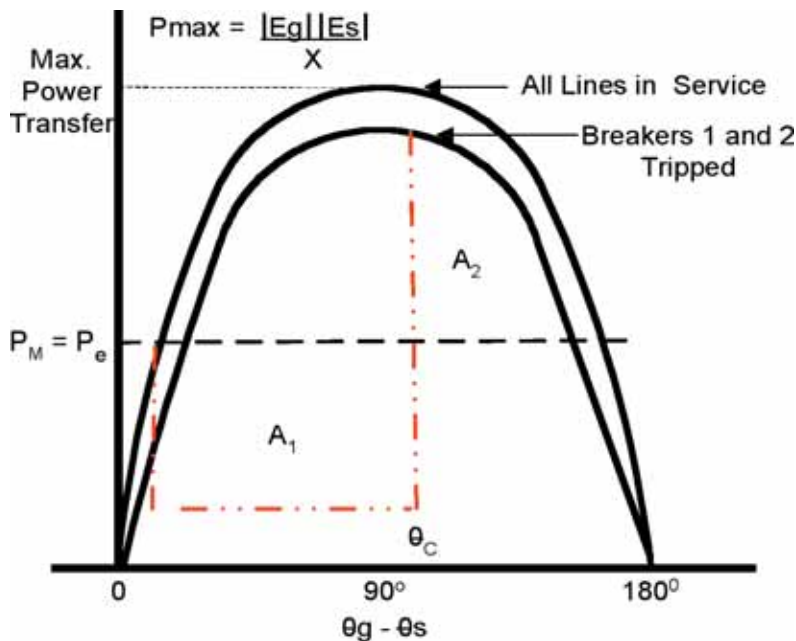

Fig. 7 Power Angle Analysis – Transient Instability
During the short circuit, the mechanical turbine power (P_m) of the generator remains unchanged. The resulting unbalance between mechanical (P_m) and electrical power (P_e) manifests itself with the generator accelerating, increasing its voltage phase angle with respect to the system phase angle as illustrated in the power angle plot in Fig. 7.
Computer transient stability studies can be used to establish this critical switching angle and time. The equal area criteria can also be applied to estimate the critical switching angle (θ_c). When area $A_1 = A_2$ in Fig. 7, the generator is just at the point of losing synchronism with the power system. Note that after opening breakers 1 and 2 to clear the fault, the resulting post fault power transfer is reduced because of the increase in reactance (X) between the generator and the power system. This is due to the loss of the faulted transmission line. In the absence of detailed studies, many users establish the maximum instability angle at 120° . Because of the dynamic nature of the generator to recover during fault conditions, the 120° angle is larger than the 90° instability point for steady-state instability conditions. The time that the fault can be left on the system that corresponds to the critical switching angle is called the "critical switching time." If the fault is left on longer than that time, the generator will lose synchronism by "slipping a pole." For this condition, the generator must be tripped to avoid